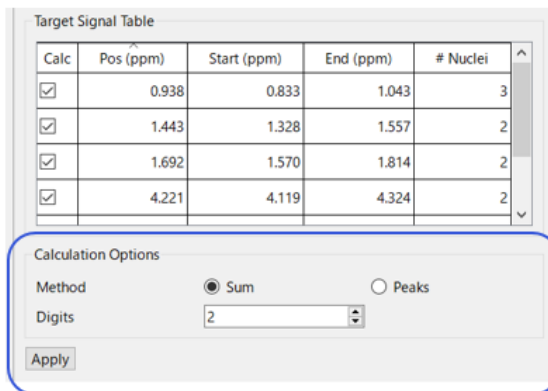

Figure 23: Calculation option on the SMILEQ widget
5. After setting the calculation option, press the **“Apply”** button to view the result as shown in Figure 23.
Figure 23 shows the result of a successful quantitative analysis, with the report and parameters tables being added to the canvas.